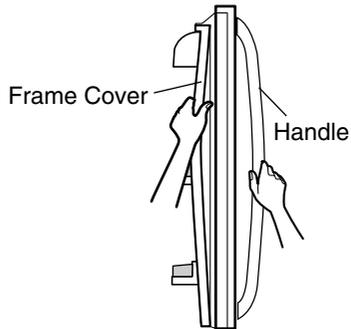
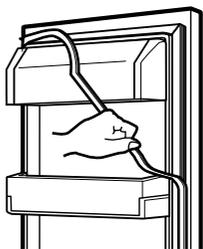

Figure 1
Figure 3
1. Disconnect water supply tube by pushing back on the disconnect ring (4).-FIG. 1
2. Open door. Loosen top hinge cover screw (1).
- Use flat tip screwdriver to pry back hooks on front underside of cover (2). Lift up cover.
5. Disconnect the three wire harnesses (4). Remove the grounding screw (5).
6. Rotate hinge lever (6) counterclockwise. Lift top hinge (7) free of hinge lever latch (8).
▶ Right Door -FIG. 3
1. Open door. Loosen top hinge cover screw (1). Lift up cover (2).
3. Disconnect wire harness (3).
4. Remove the grounding screw (4).